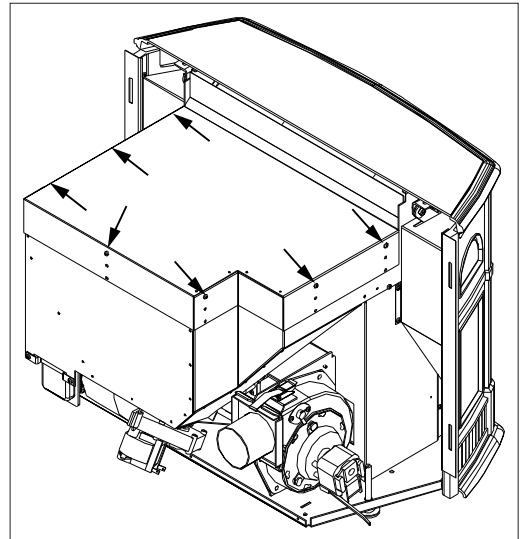

Figure 8: Screws to move hopper.
To change the height of the hopper up or down, remove the seven (7) T-20 screws, three (3) on each side and one (1) on the back. The screw placement is shown Figure 8. Move the hopper assembly to the required setting and replace the screws. When the hopper back is in place it is recommended that silicone is used to seal the bottom lip of the hopper back and sides.